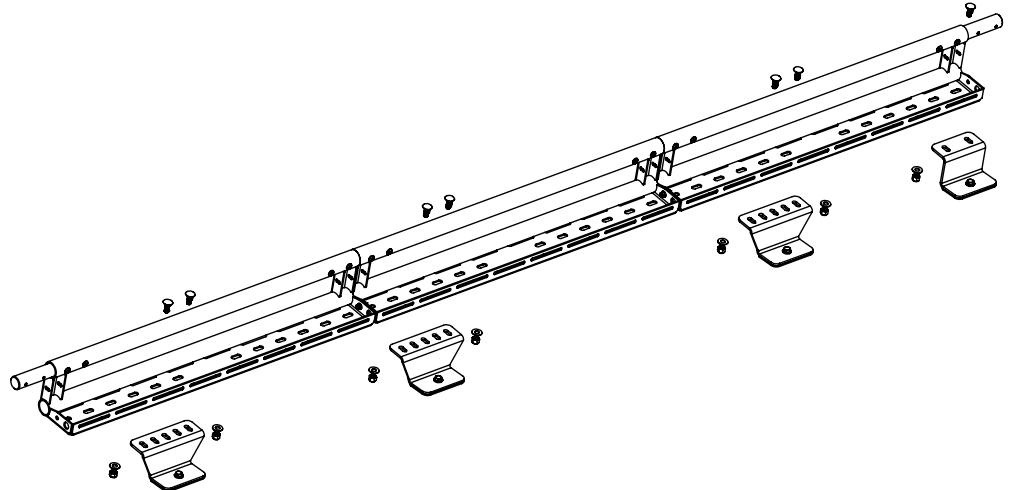

FIG 14
5.1 Mount Side Rails to Van Rails: With assistance, lift the Side Rail Assembly onto the roof. Align the Side Rail Assembly with the mounting holes of the Foot Brackets and secure loosely using **3/8-16" Carriage Bolts, Flat Washers and Nylon Locknuts** as shown in FIG 14+15.